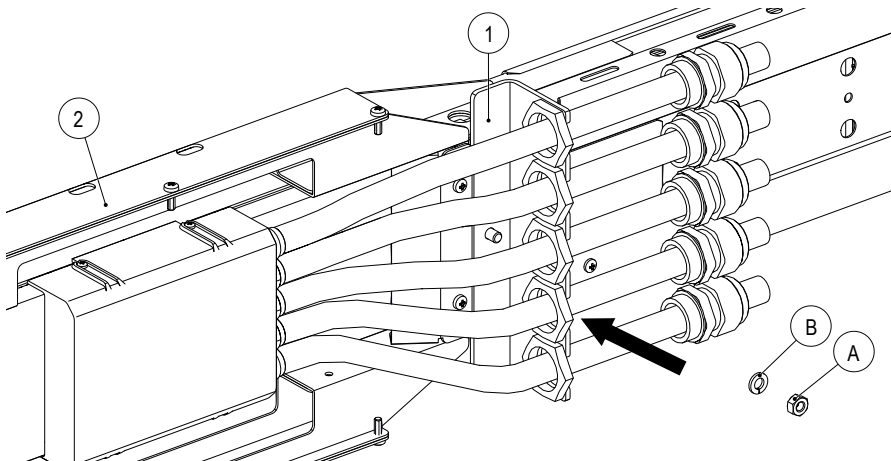

Fig. 79: Install strain relief plate (1)
- Tighten the strain relief plate (1) on the fastening frame with the hexagon nut (A) and the spring washer (B) using an open-end wrench SW10 (see Fig. 79).